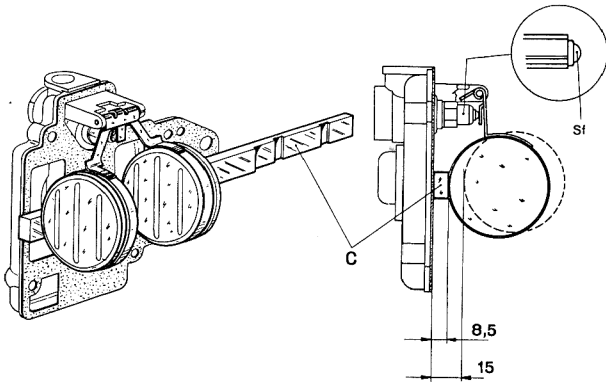

FIG. 44
a) by a special gauge rod **C** - **Fig. 44** - taking care not to push in the ball of the spring-dampened valve. Usually, the cover gasket is removed if **to do this it is unnecessary** to take out the float; otherwise, check with gasket tight on cover held vertical.